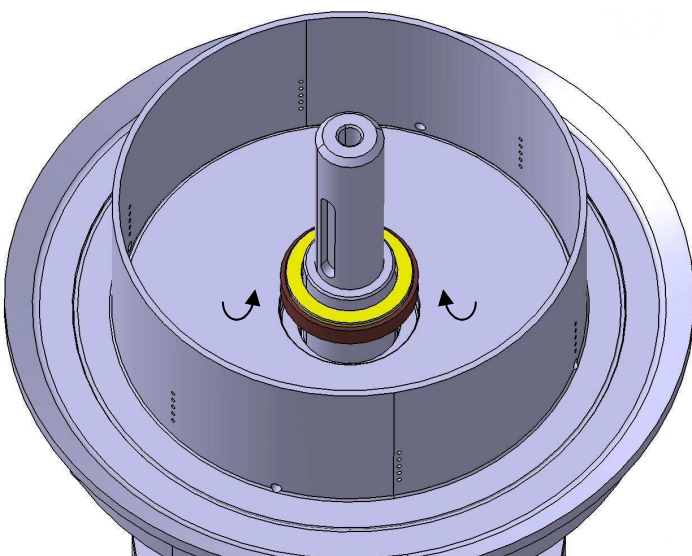

Figure 8.6 Static part of mechanical shaft seal.
- It should now also be possible to remove the static part of the mechanical shaft seal using a small screwdriver. See Figure 8.6